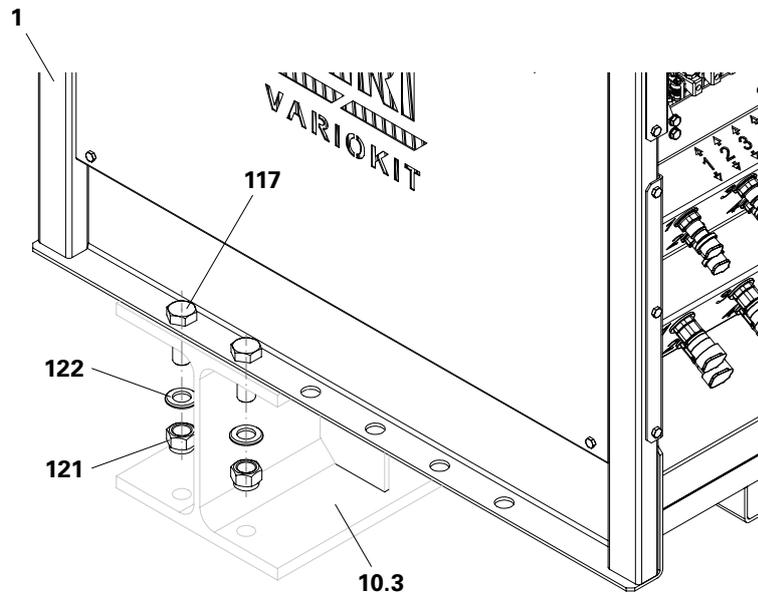

Fig. B4.01
1. Attach the hydraulic pump (1) to the crane lifting gear and fly in.
3. Fix the hydraulic pump on the Base Beam with bolts M24x70 (117), self-securing nuts M20 (121) and washers M24 (122).
- (Fig. B4.01)